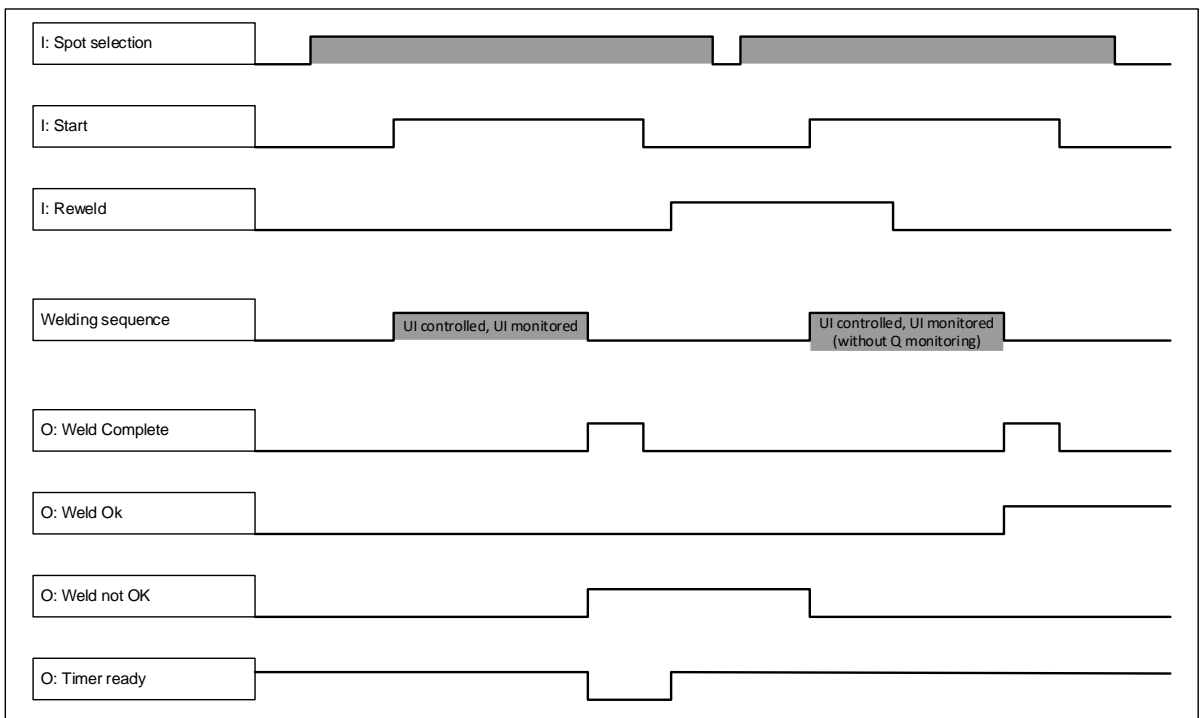

Fig. 7: Reweld after new edge of start signal
- Reweld after new edge of start signal (refer to Timer diagram Fig. 7):